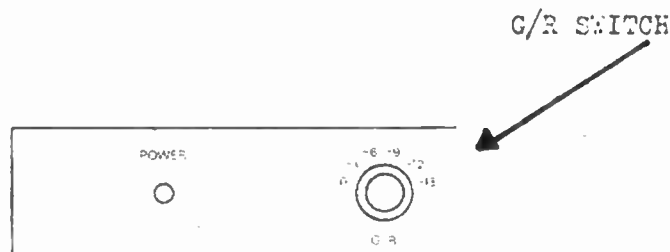

FIGURE 3-1 GAIN REDUCTION SWITCH LOCATION
3.1.1 Gain/Reduction Switch (Figure 3-1)